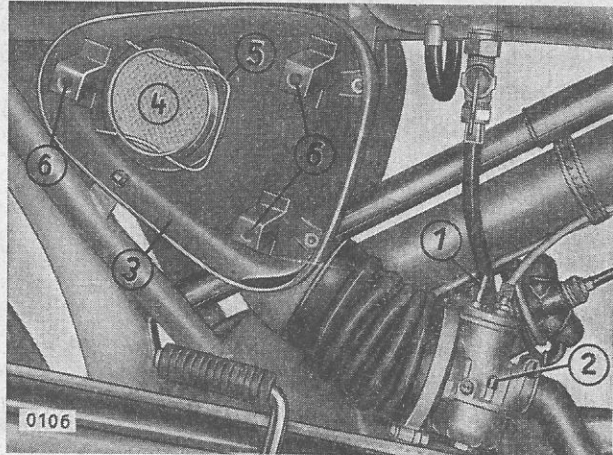

Fig. 6: Carburettor choke:
6. Choke control (Fig. 6)
Press choke slide controll on the carburettor (Fig. 6/1) and if necessary gently flood carburettor by pressing the tickler (Fig. 6/2).
2. Press automatic starter bolt (Fig. 6/1).
2. Pull out retaining spring (Fig. 6/5) of filter element and take out filter element (Fig. 6/4).